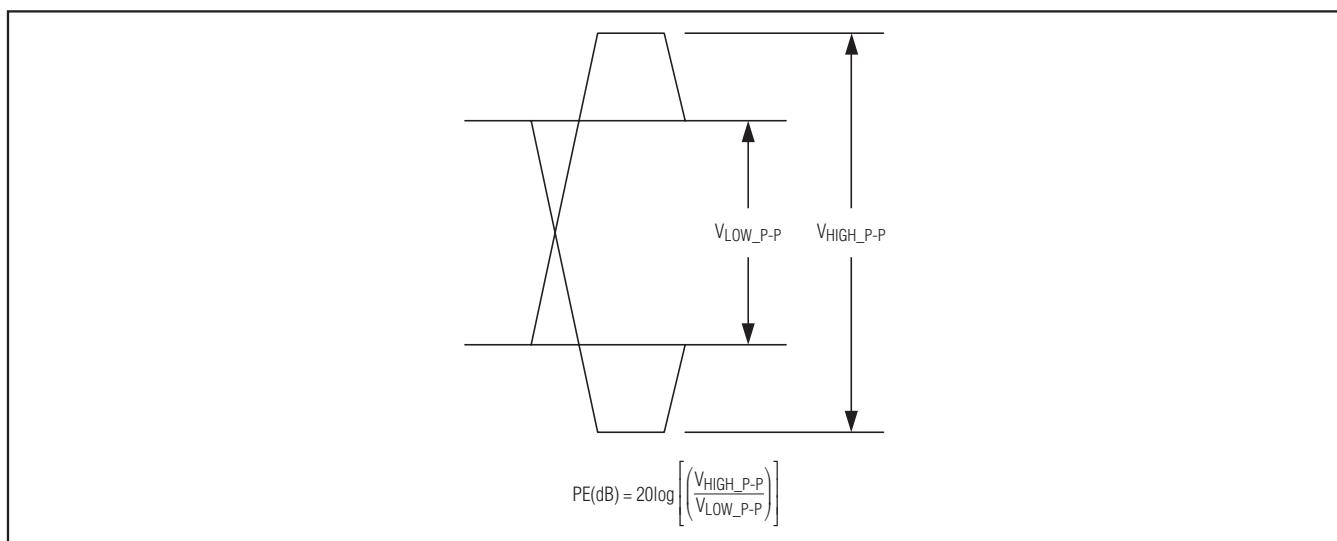

Figure 1. Output Preemphasis
**Note 4:** EQ (input equalization) as employed in this device refers to the equivalent of adding preemphasis before the input. For example, input EQ of 3dB would show the same waveform as output PE of 3dB (see Figure 1).